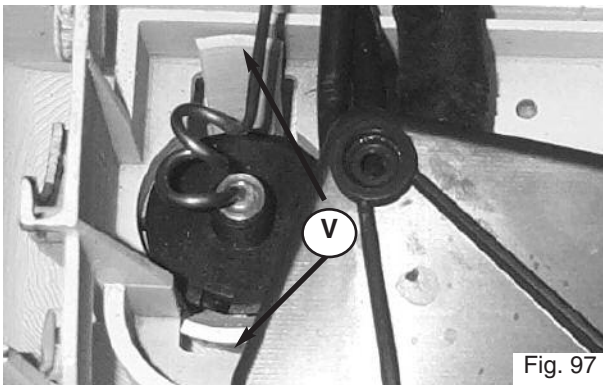

Fig. 97
2. Remove the pressure gauge by releasing the two clips **V** and pulling the pressure gauge out. (see *Fig. 97*)